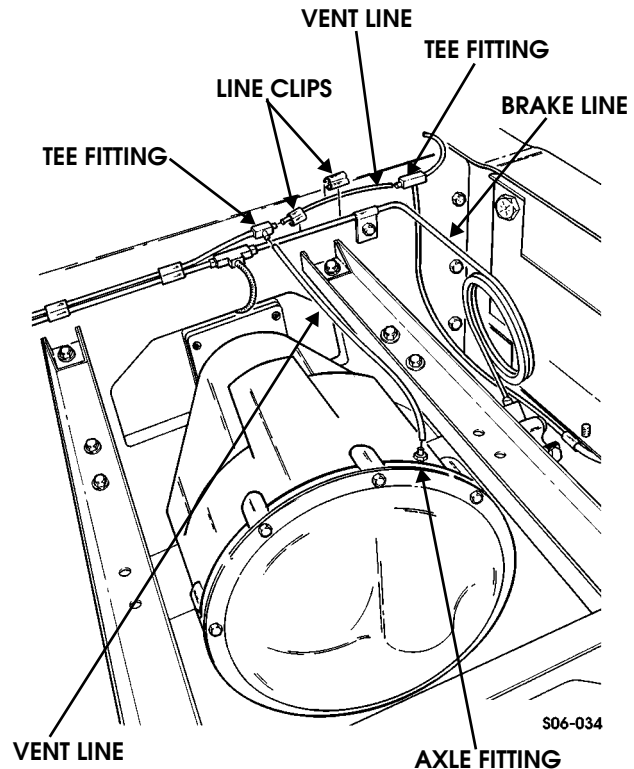

Figure 9-48: Axle Vent Line Location
1. Disconnect vent line from axle fitting and tee fitting and remove vent line (Figure 9-48).
1. Install vent line and connect to two tee fittings (Figure 9-48).